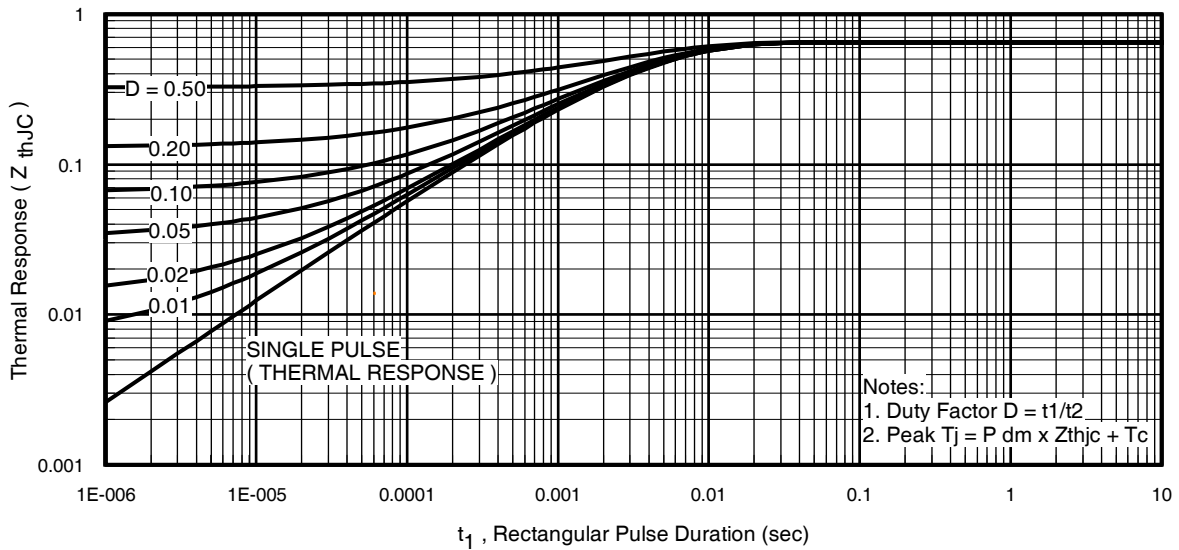

Fig 11. Maximum Effective Transient Thermal Impedance, Junction-to-Case
- ① Repetitive rating; pulse width limited by max. junction temperature. (See fig. 11).
- ② Limited by T_{Jmax} , starting $T_J = 25^\circ\text{C}, L = 0.10\text{mH}$
$Z_{thJC}(D, t_{av})$ = Transient thermal resistance, see figure 11)